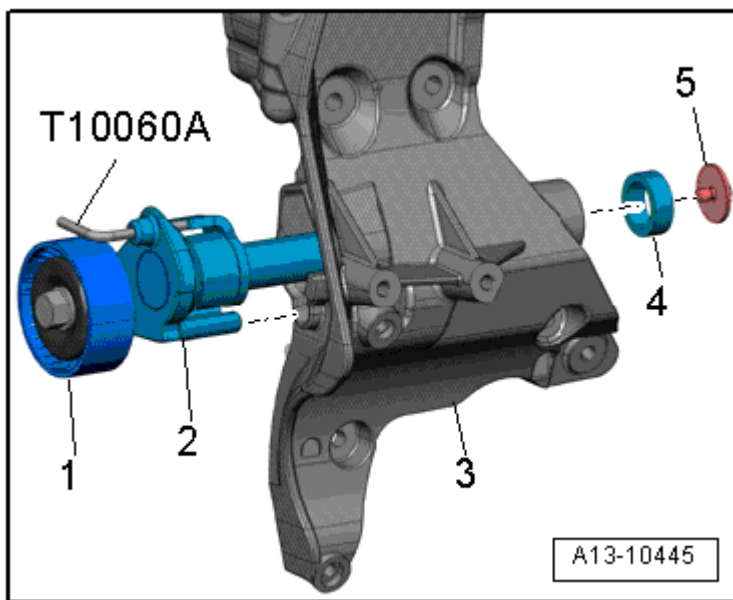

Fig. 7: Identifying Tensioning Device For Ribbed Belt
- Tensioner overview, refer to **Fig. 7**.